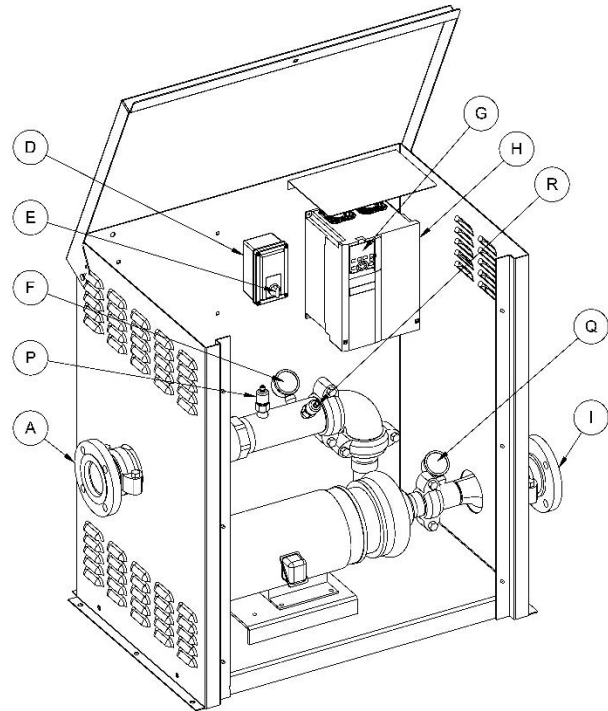
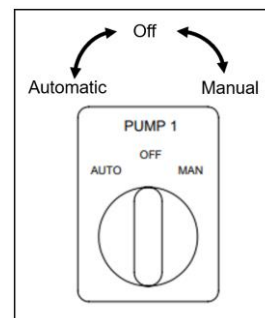

Figure 4-1. Pump Station Components.
Figure 6-2. Auto-Off-Manual Switch.
Identify the location of components and controls of the pump station by comparing Table 4-1 with Figures 4-1 and 4-2.
7. Connect the line from the water source to the Flanged Intake Connection (J, Figure 4-1). Follow the manufacturers recommendations for connection and assembly of Victaulic pipe connections.
8. Connect the Flanged Discharge Connection (A, Figure 4-1) to the irrigation field. Follow the manufacturers recommendations for connection and assembly of Victaulic pipe connections.
4. Set the Auto-Off-Manual (AOM) Switch (E, Figure 4-1) in the OFF position. See Figure 6-2.
2. Verify that the Auto-Off-Manual (AOM) Switch (E, Figure 4-1) is in the OFF position. See Figure 6-2.